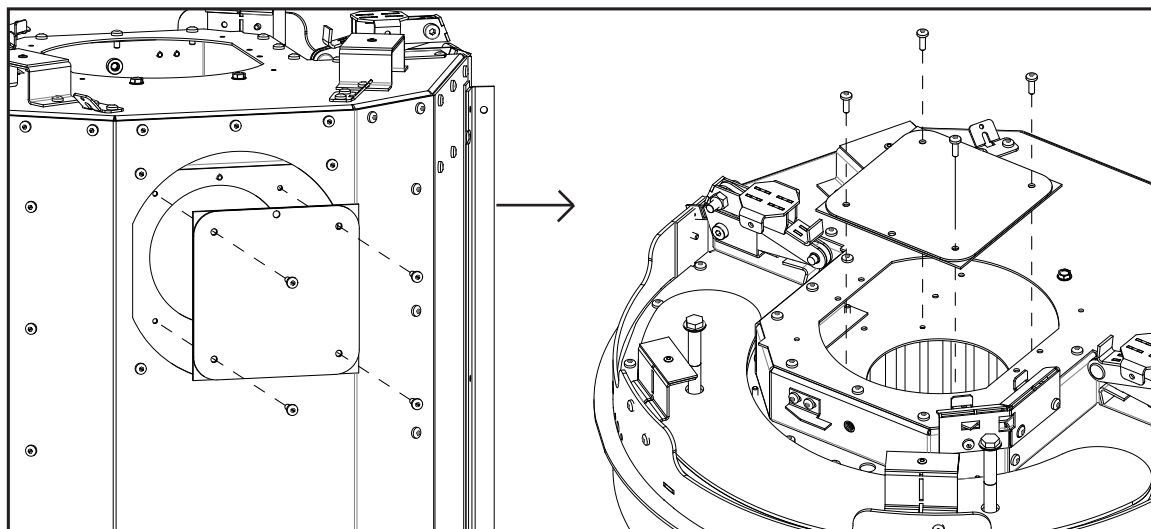

Figure 72: Inner Block-Off Plate Removal and Attachment
9. Remove the outer and inner block-off plates from the back of the unit and attach them to the top of the unit where the exhaust spigot and vent collar were attached (see Figure 72).